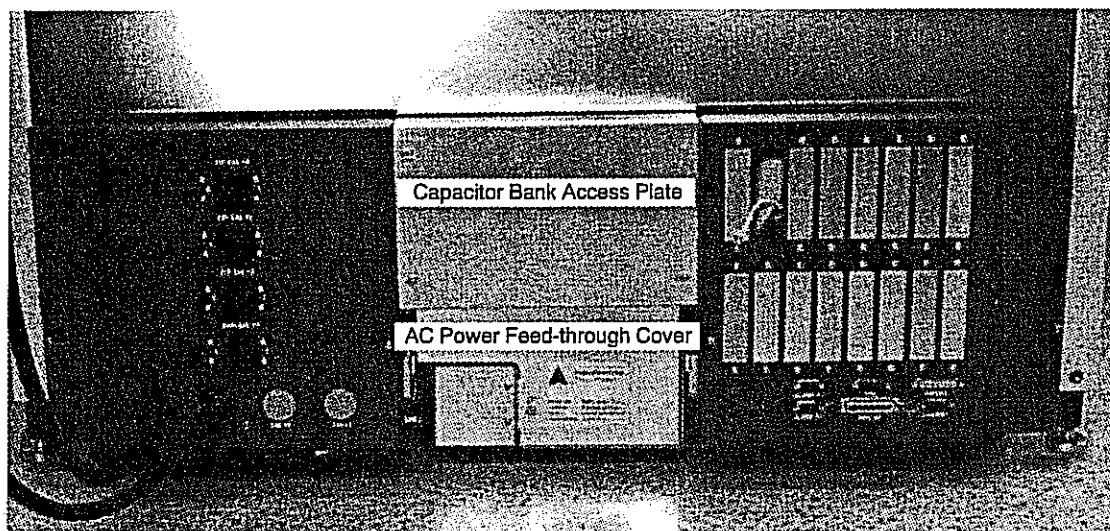

Figure 7-25. Back Capacitor-bank Access Plate
7. Remove the capacitor-bank access plates. The front plate is a panel with two screws, and the back plate is a box with four screws. Refer to Figure 7-25.
11. Remove the two screws from the front upper corners of the capacitor bank on the front of the system. Keep these screws separate because they are different sizes. The unit should slide freely to the rear about 5 inches. Use caution because the capacitor bank is very heavy. Refer to Figure 7-25.
4. Remove the capacitor-bank access plate (shown in Figure 7-25) near the incoming power module (four screws).